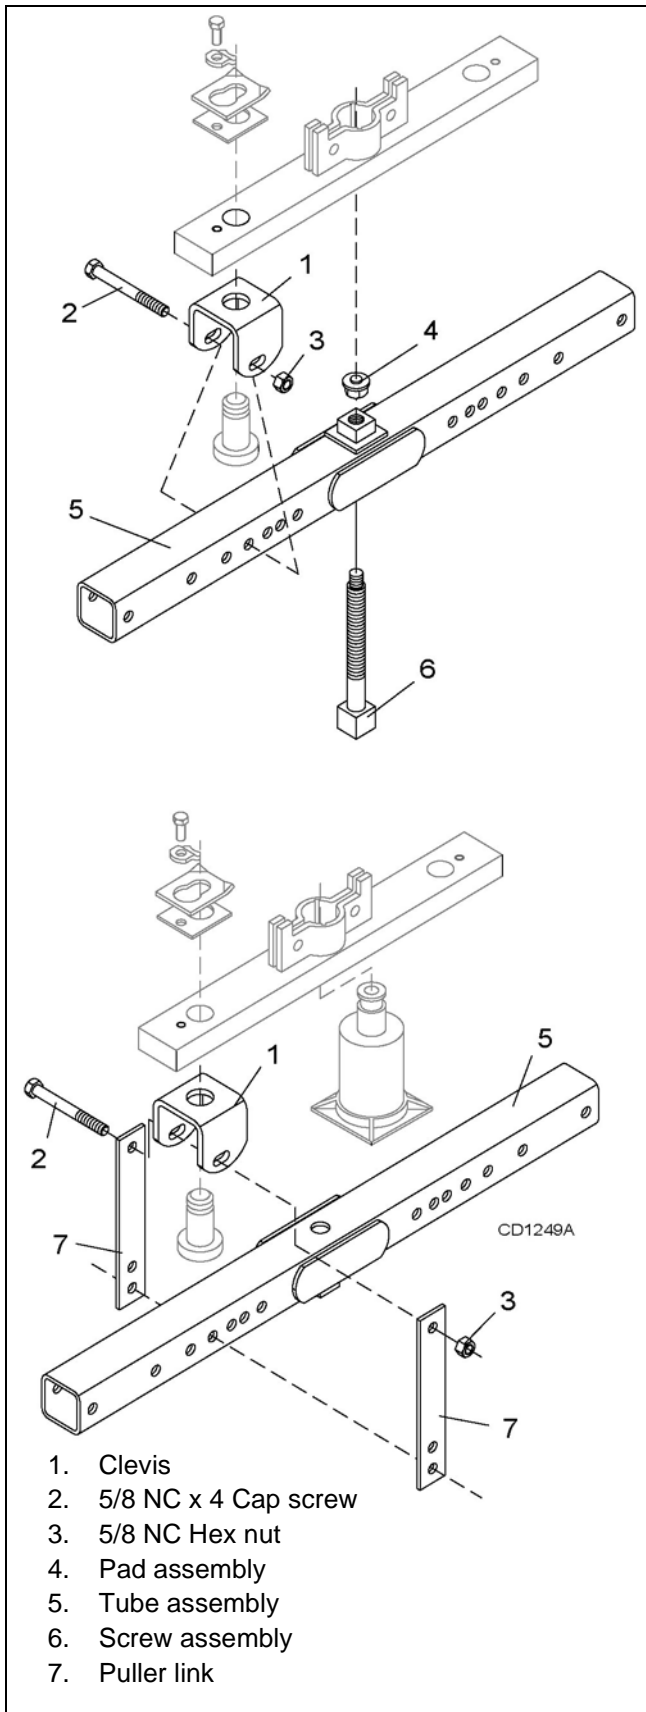

Figure 24. Crossbar Removal
- Remove cotter pin (20) and castle nut (19) from bottom of crossbar.
- Refer to Figure 24.** Attach a clevis (1) to each end of crossbar, using blade pins, spacers, keyhole plates, and blade pin clips.
- Position tube assembly (5) with threaded nut toward crossbar for puller screw removal or down for hydraulic jack removal.
- For removal with puller screw, attach tube (5) to each clevis with screws (2) and nuts (3). Place pad (4) in nut and thread puller screw (6) into nut from bottom. Tighten until pad is solid against gearbox shaft. For best results, strike head of puller screw with a hammer while tightening with a wrench.
- For removal with a jack, attach tube to each clevis with puller links (7), screws (2), and nuts (3). Place jack on tube with end of jack pressing against gearbox shaft. Slowly apply force with jack.